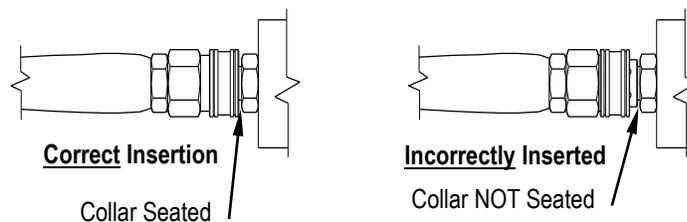

Figure 2a
- 2) Your pressure washer hose is equipped with quick couplers. Simply pull the collar back and push the coupler onto the water outlet nipple (figure 2a).